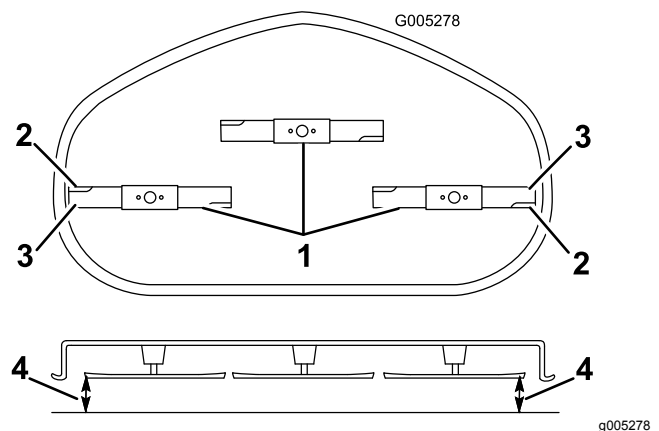

Figure 56
- Carefully rotate the blade(s) so that they are all side to side (Figure 56).
- Measure between the outside cutting edges and the flat surface (Figure 56). If both